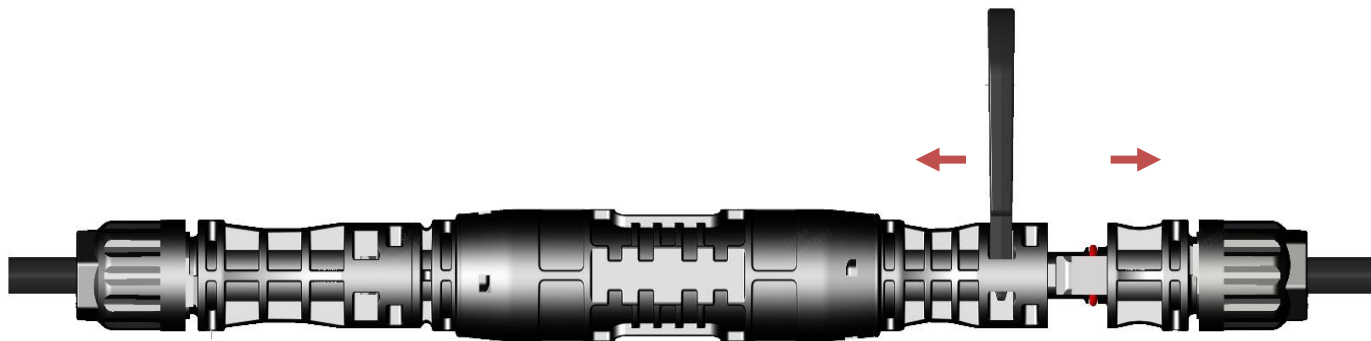

Figure 3
- ◇ 用左右手分别拉拔连接器，即可分开分支连接器与公母电缆连接器（如图 3）。
Separating the branch connector from the male and female cable connector by pulling the connector with both left and right hands. (Fig. 3)